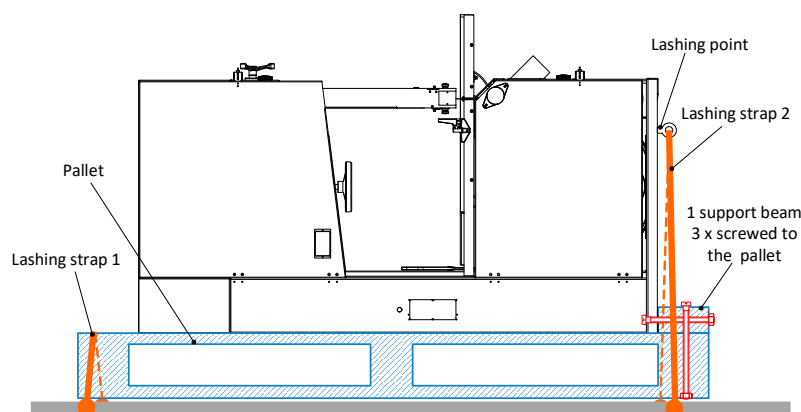

Figure 11: Lashing models BSB 700 / 800 / 900
- There is a lashing point for lashing strap 1 (⇒ Figure 11) under the machine base. The pallet is directly lashed with lashing strap 2.